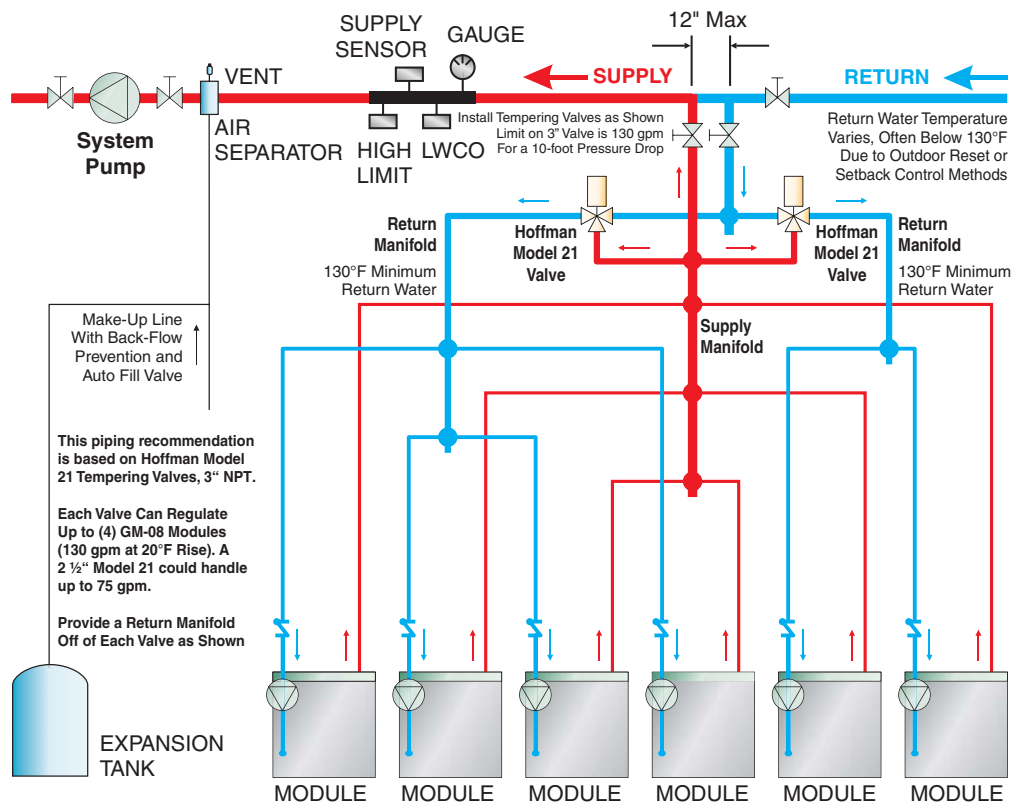

Figure 5.9: Primary-Secondary Pumping, Variable Bypass Using 3-Way Valve
- d) To allow the boiler loop temperature rise to adjust to system temperature, use tempering valve(s) in the module piping (Figure 5.9).